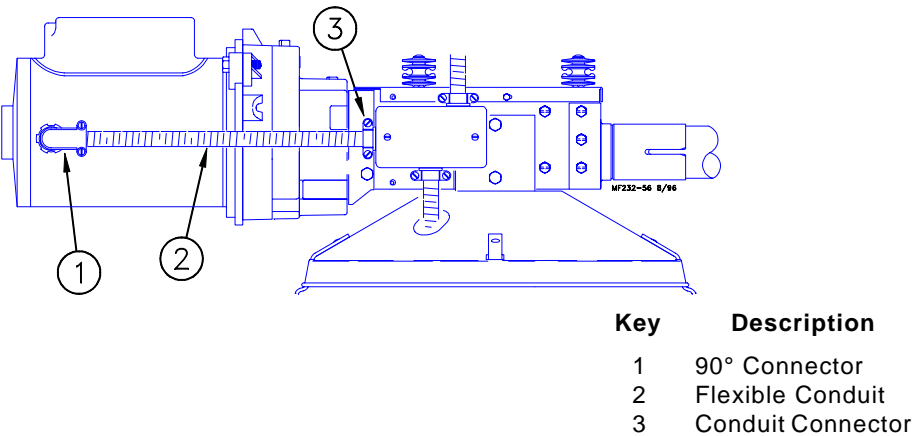

Figure 11. Conduit Installation. (side view)
- 6. Single Phase: Install the 90 degree connector, flexible conduit, electrical wire, and conduit connector as shown in Figure 11.